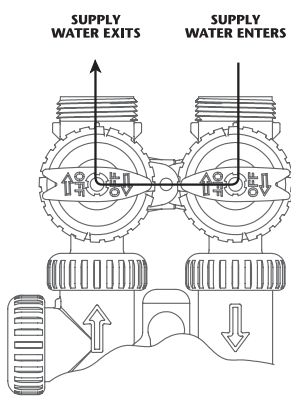

FIGURE 2
2. **BYPASS POSITION:** The inlet and outlet handles point to the center of the bypass. The system is isolated from the water pressure in the plumbing system. Untreated water is supplied to the building (**Fig. 2**).
In order to replace or remove the check valve from the control valve, it is necessary to relieve the pressure from the system. Place filter into by-pass mode (Fig. 2 Page 4) and release pressure by manually stepping through an entire regeneration sequence. This will adequately release the pressure on the system so the check valve can be serviced.
1. Rotate bypass handles to the bypass mode (**see Fig. 2 of page 4**).